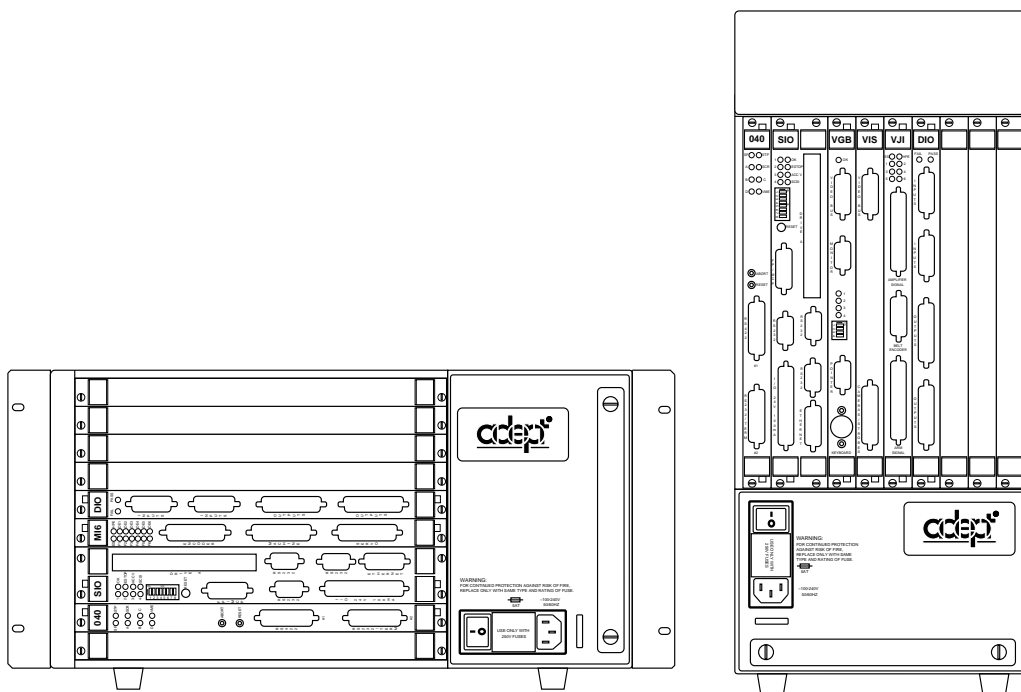

Figure 1-1. Typical Adept MV Controllers
**Figure 1-1** shows an Adept MV-8 controller and an Adept MV-10 controller. Adept systems are flexible, modular systems that allow you to combine the needed components for your automation task. The appearance of your system will vary depending on the components you have selected.